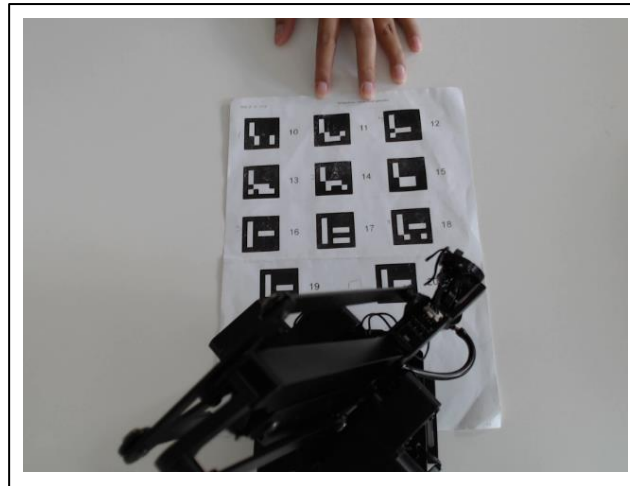

Figure 8. ArUco Board Position
9. After calibrating the camera, we have to do one more step: detect every marker in the ArUco board. This step is also important to find the Marker ID, coordinate and translation vector for every marker. Before we take marker coordinates, we have to place the ArUco board in front of the robot, like in *Figure 8*. **You must ensure that all the marker is in the frame and not cut off or blocked.**